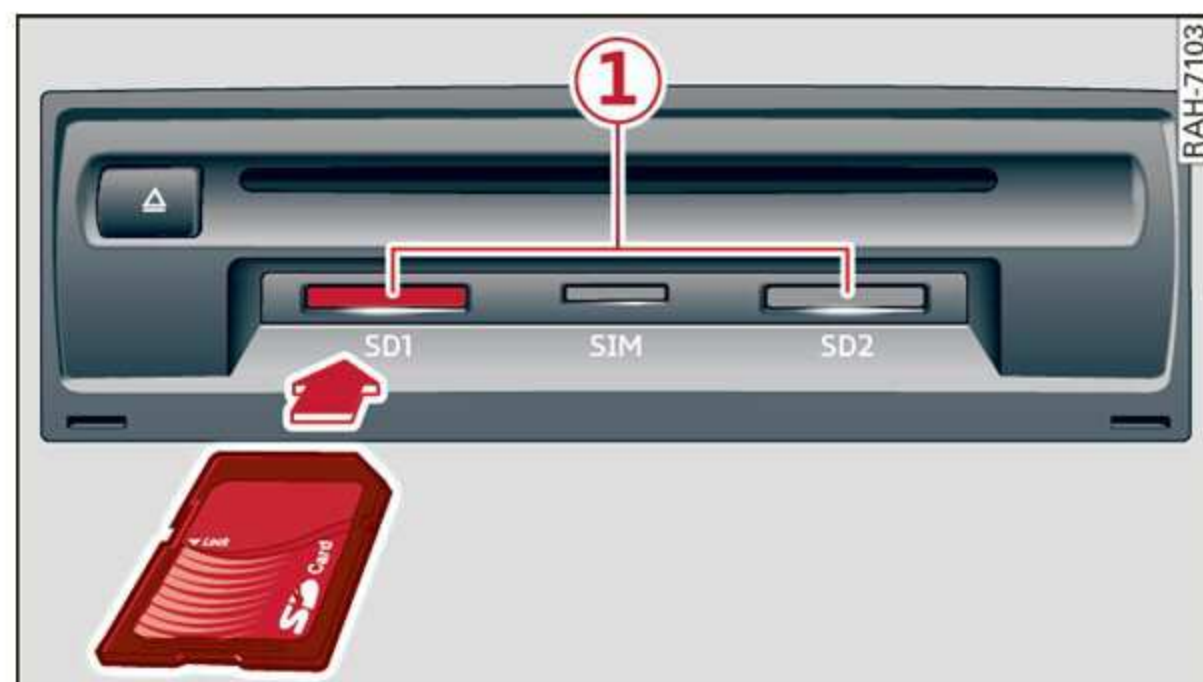

Fig. 132 Glove compartment: inserting the SD card
- **Inserting the SD card:** the angled corner of the SD card must face toward the right front when inserting. Slide the SD card into the card reader slot ① ⇒ *fig. 132* until the SD card clicks into place.